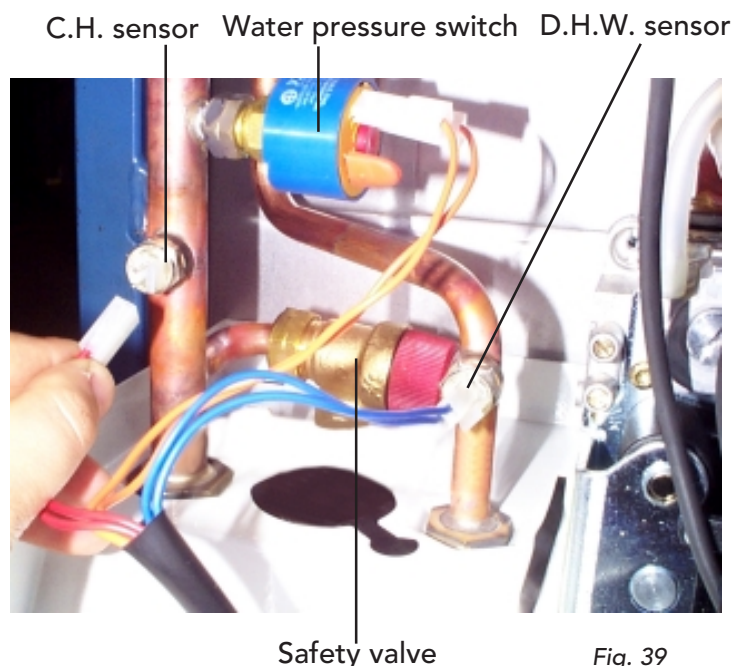

Fig. 39
## 7.07 D.H.W. temperature sensor or Central Heating Temperature Sensor (fig. 39)
- Identify the sensor from figure 39
## 7.11 Water Pressure Switch (fig. 39)
- Identify the switch from figure 39
## 7.12 Safety Valve (fig. 39)
- Identify valve from fig. 39